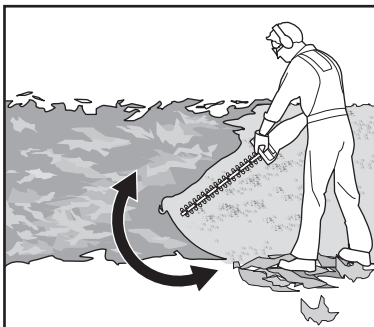

Fig. 5
3. Always hold the product firmly with both hands on front handle (4) and rear handle (6). Never operate this product using only one hand.
5. First cutting both sides from the bottom upwards to the top. This will prevent any of the cuttings falling into the path of the area still to be cut (Fig. 5).